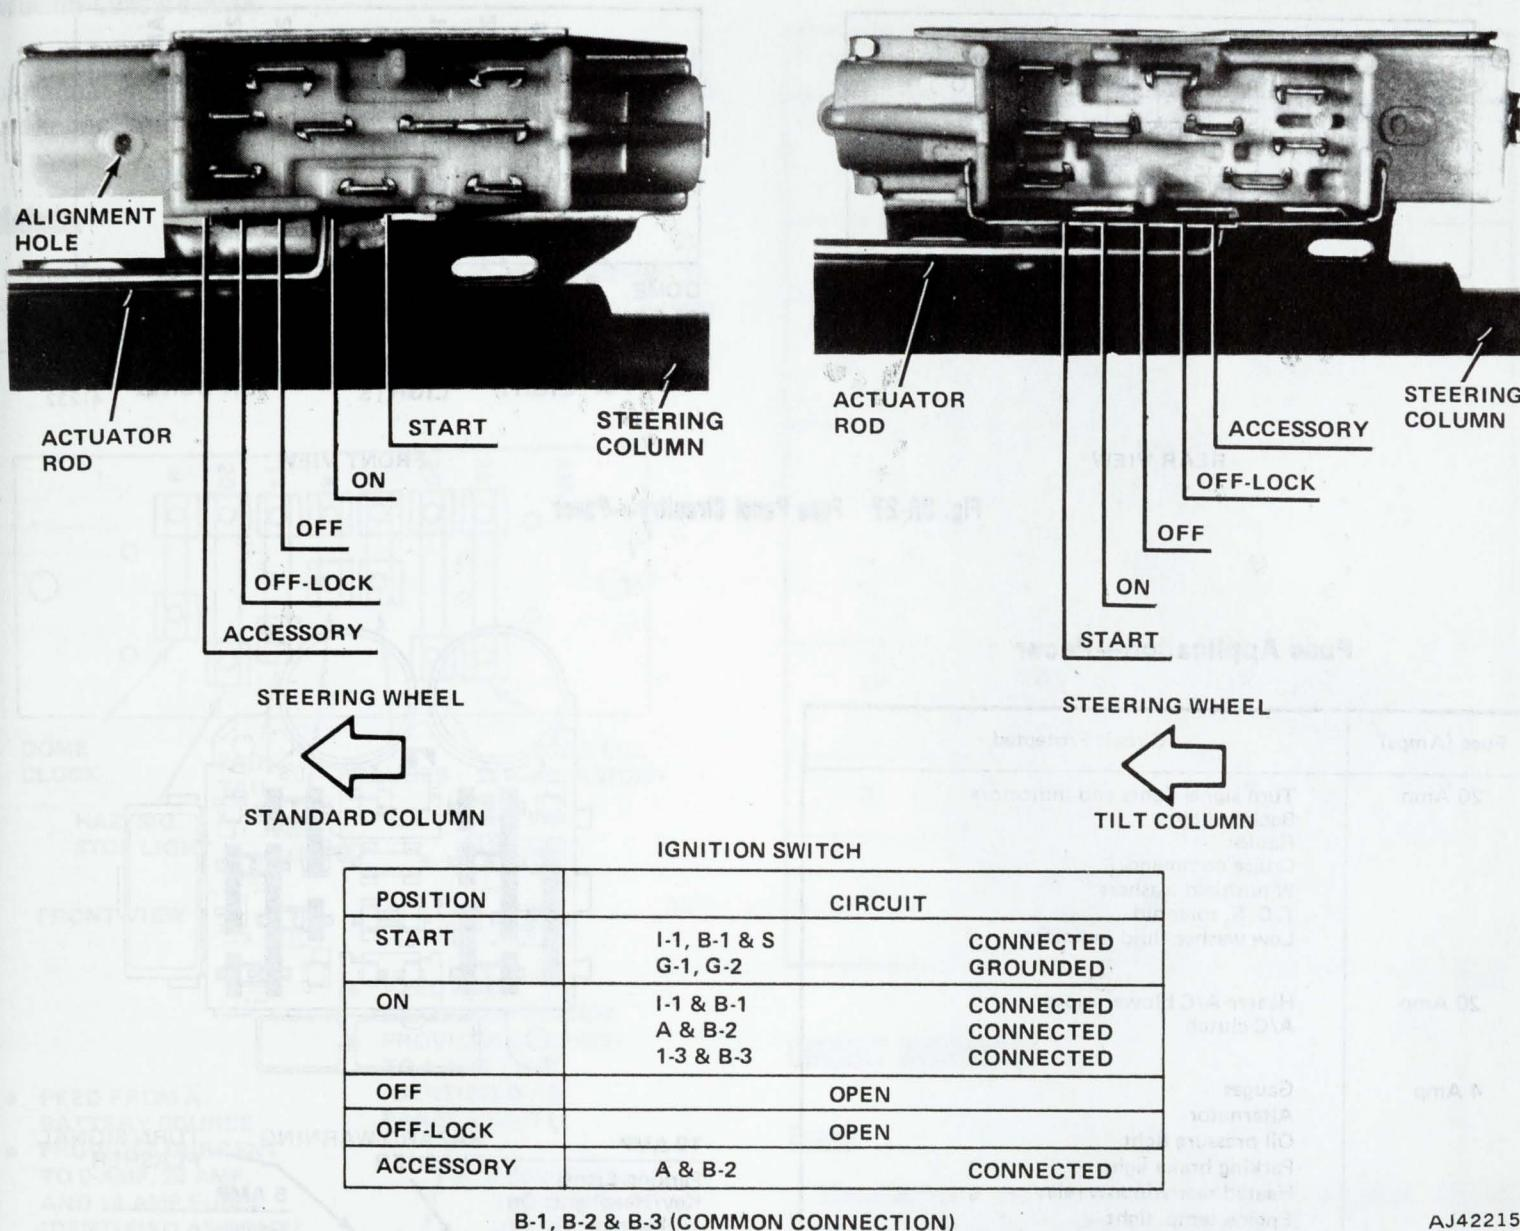

Fig. 3R-26 Ignition Switch Positions
- (1) With actuator rod disconnected, position switch as shown in figure 3R-26.
- (2) Move slider to extreme right (ACCESSORY position).